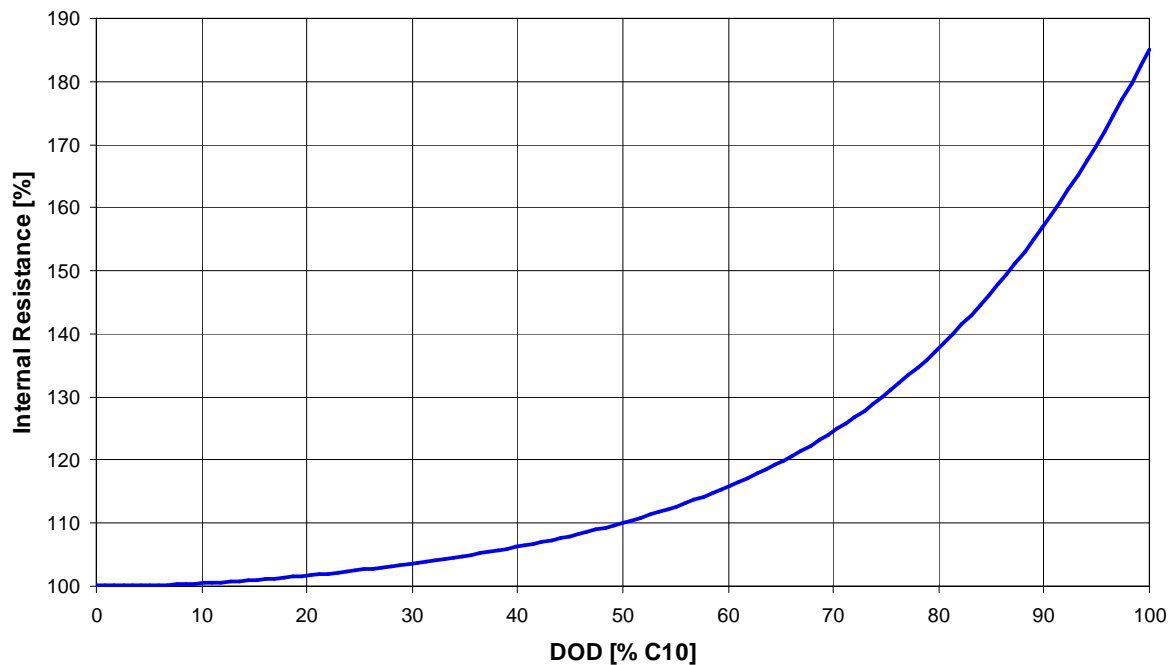

Fig. 11: Internal Resistance R_i vs. Depth of Discharge (DOD)
- The internal resistance R_i depends on the depth of discharge (DOD), for instance, as shown in fig. 11 below. Hereby, the R_i -value at 100% state of charge (= fully charged) is the base line. The R_i -basic value can be taken from the equivalent catalogue.